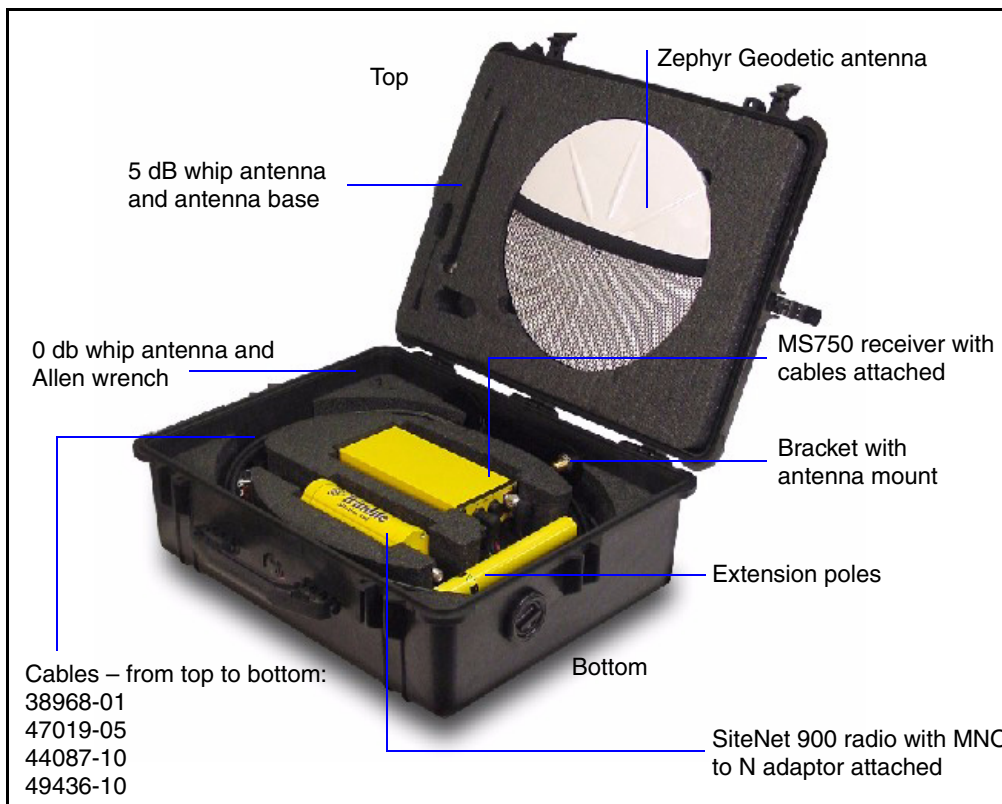

Figure 2.3 Case containing AgGPS Autopilot base station components
3. Place the equipment in the base station case for transport or storage as shown in Figure 2.3.